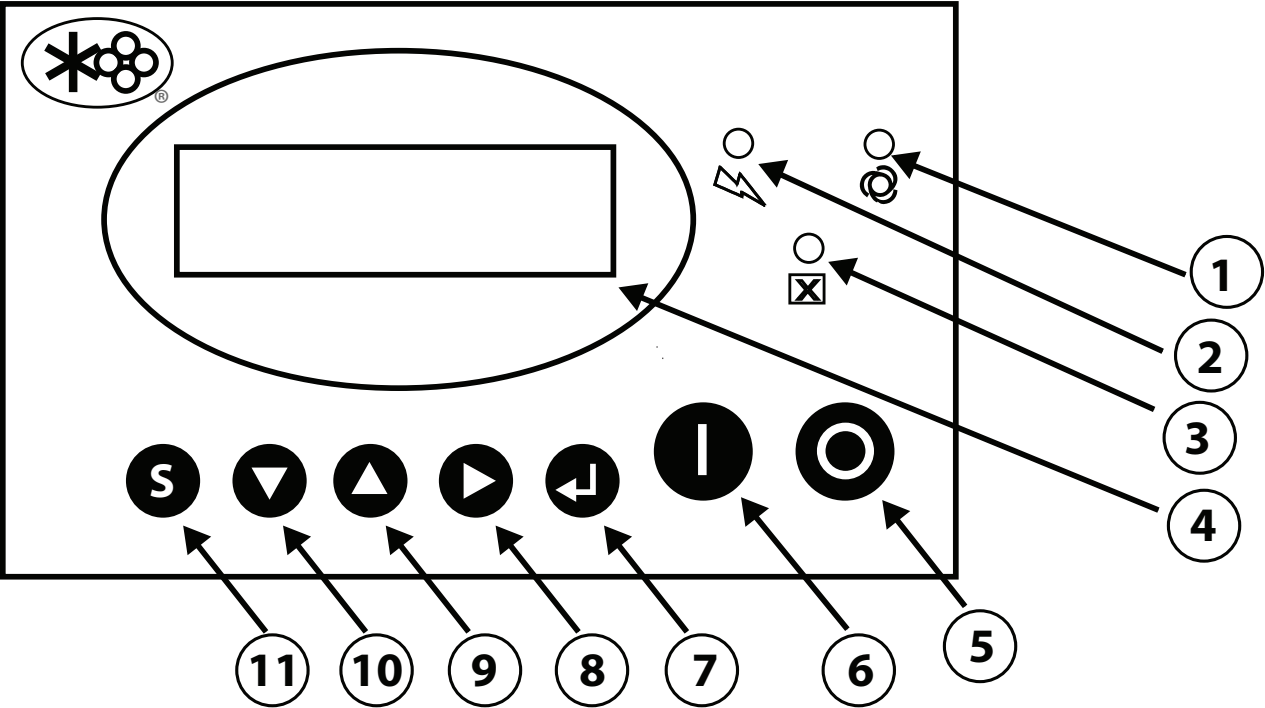

Figure 2-9: Controller Panel
Refer to *Figure 2-9*. The Controller keypad has two main pads for compressor control. To start the compressor operation, press the green Start pad ①.